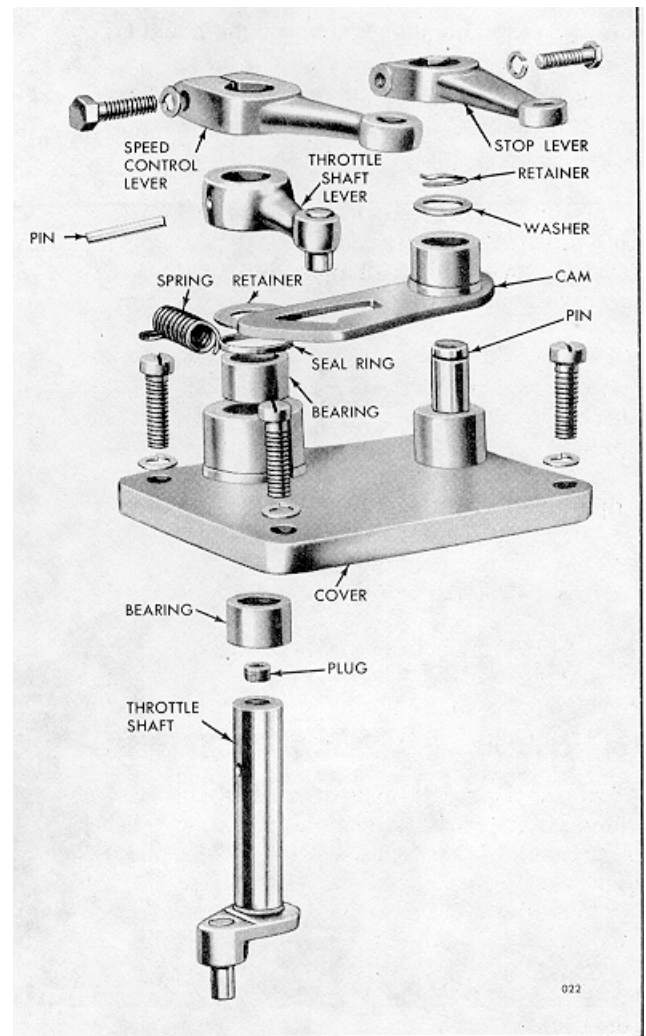

Fig. 3 Governor Cover Details and Relative Location of Parts
3. Remove four screws and lock washers and lift the governor cover (Fig. 3) and gasket from the governor housing.
- a. Remove the plug from the throttle shaft (Fig. 3).
3. Apply lubricant to the retaining pin and place the cam (Fig. 3) over the pin with the boss of the cam up. Install the stop lever.